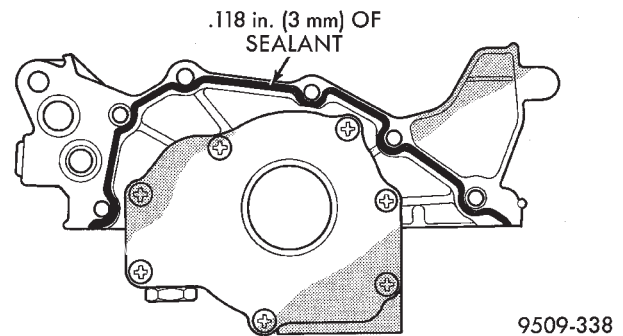

Fig. 77 Oil Pump Sealing
- (1) Clean block and pump surfaces.
- (2) Prime oil pump before installation by filling rotor cavity with clean engine oil.
- (3) Apply mopar gasket maker to oil pump as shown in (Fig. 77). Install oil-ring into the counter bore on the oil pump body discharge passage.